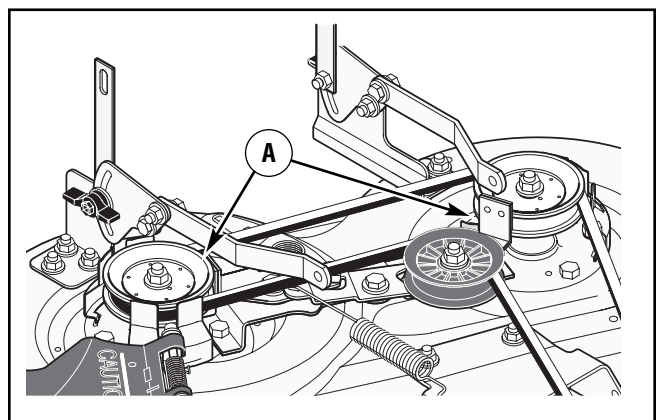

Figure 24: Blade brake
8. Move the **blade rotation control** to the **DISENGAGE position**. Stop the engine. Disconnect the wire from the spark plug. Check the operation of the **blade brake**. Rotate the pulleys with your hand. Make sure the **brake pads** are pressed tightly against the pulleys (Figure 24).